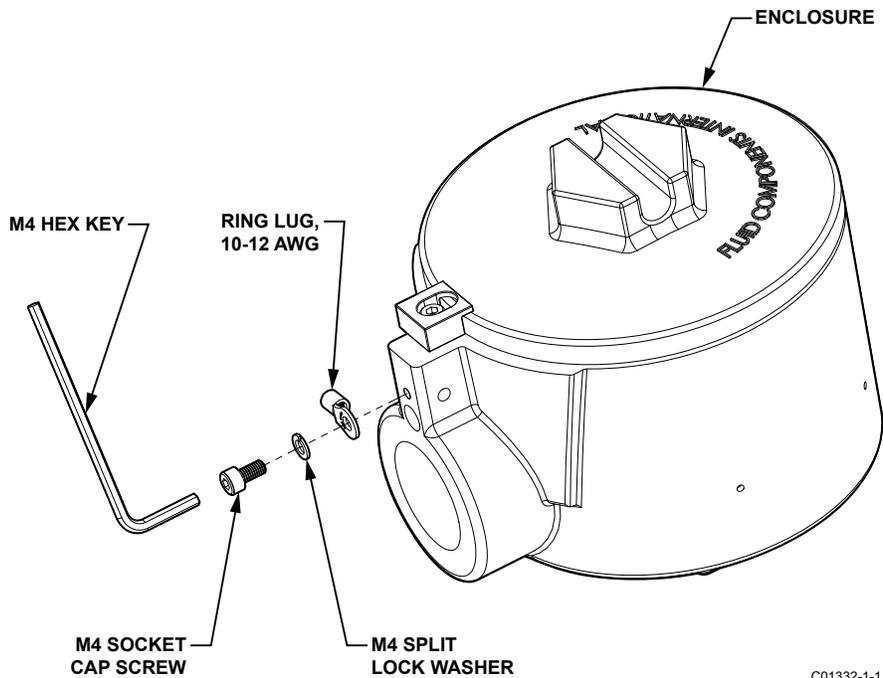

Figure 6 – Removing Ground Wire Securing Hardware from Enclosure
- Remove M4 socket cap screw, M4 split washer and ring lug from enclosure using M4 hex key (Allen wrench). The enclosure's ground wire hardware is installed at the factory. See Figure 6 above.